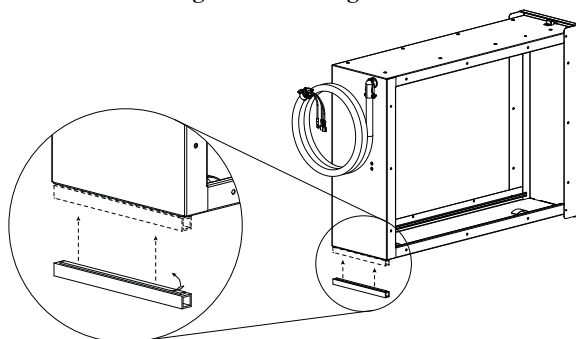

Fig. 8 - Installation of Support Foot
4. If the air purifier is to be mounted in a side-flow application, affix the adhesive-backed support foot to the side of the purifier that will be on the floor, near the rear of the purifier, as shown in Fig. 8.